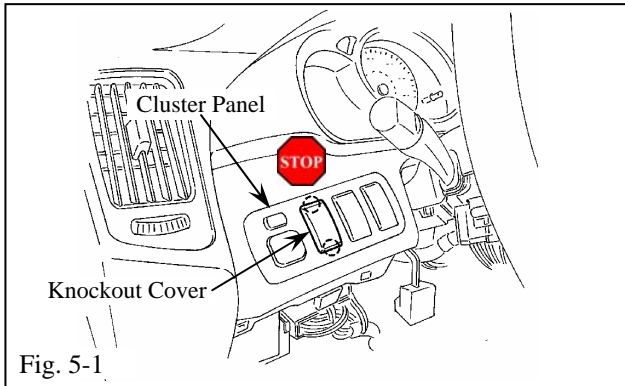
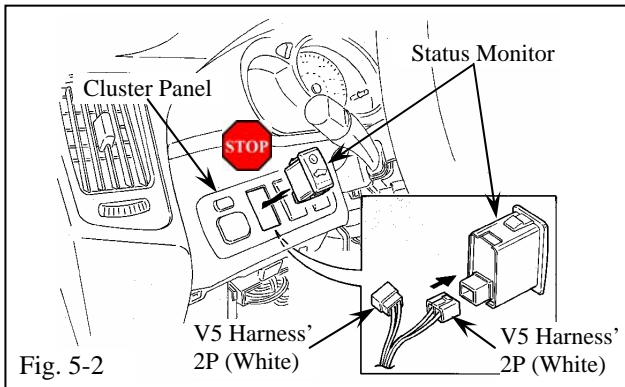
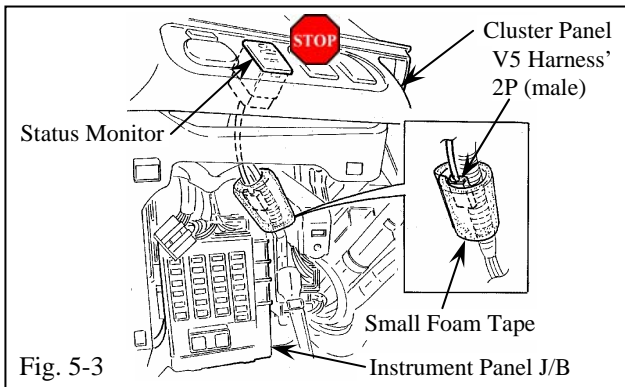
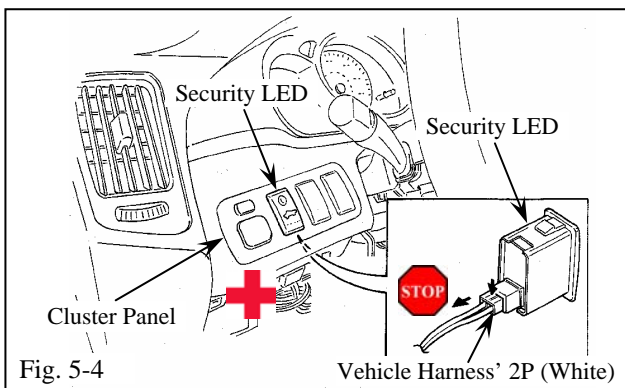

Fig. 5-1
Fig. 5-2
Fig. 5-3
Fig. 5-4
- (a) Remove the knockout cover from the far left space of the cluster panel. (Fig. 5-1)
- (1) Do not perform this step if the vehicle has an immobilizer system.
- (b) Plug in the V5 harness' white 2P connector to the status monitor. (Fig. 5-2)
- (2) Verify the connectors are plugged in securely.
- (c) Insert the status monitor into the knockout opening of the cluster panel. (Fig. 5-2)
- (1) Do not use the V5 Harness' white 2P connector (male).
- (d) Do not use the V5 harness' white 2P connector (male); wrap it to the vehicle harness with one small strip of foam tape. (Fig. 5-3)
- (e) Locate the security LED in the cluster panel. (Fig. 5-4)
- (1) Do not perform this step if the vehicle does not have an immobilizer system.